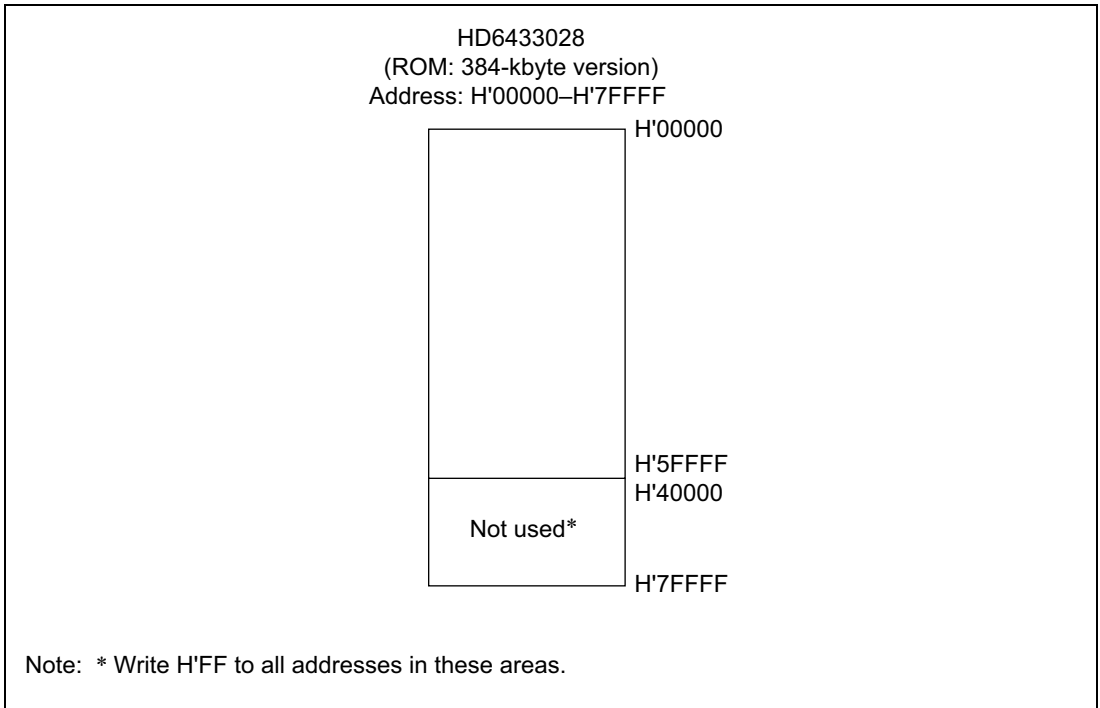

Figure 18.20 ROM Addresses and Data
2. Fill the address area shown in figure 18.20 below with H'FF as shown to make the ROM data size 512 kbytes. This applies both to ordering using an EPROM and to ordering using electrical data transfer.